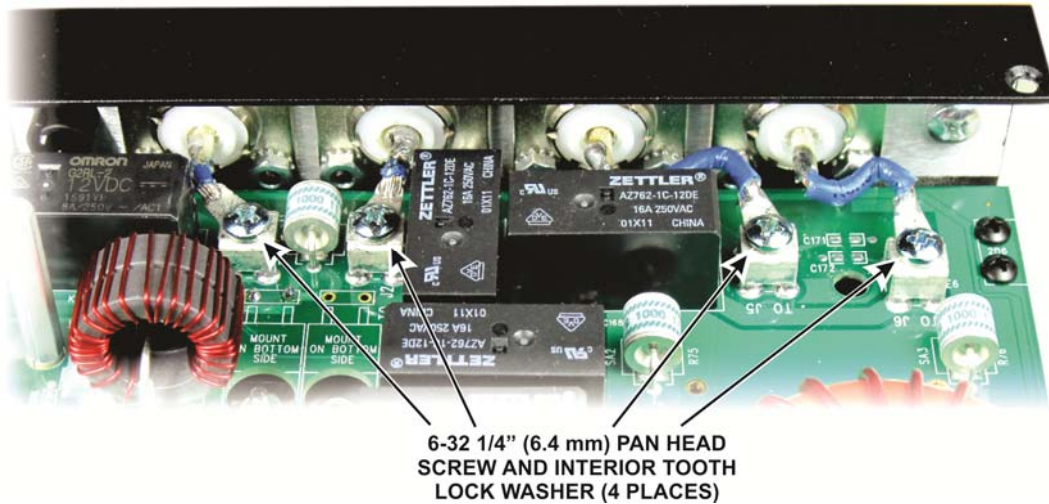

Figure 25. Securing SO-239 Wires to the PC Board Screw Posts.
- ☐ Attach the wires leading to each of the SO-239 connectors to the screw posts on the pc board as shown in Figure 25.
- The four screws securing the SO-239 connector leads to the standoffs on the pc board (Figure 25, page 28).